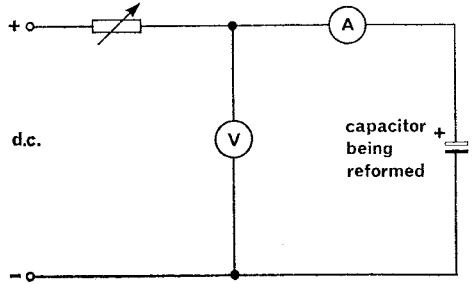

Fig 1 Reforming circuit
5. **Method.** In order to reform an electrolytic capacitor a d.c. current of the correct polarity must be passed through it for a period of time depending on the condition of the capacitor. This current should be as low as possible and must be carefully controlled to prevent overheating the component. A suitable reforming circuit is shown in figure 1. The value of the variable resistor is gradually reduced during the reforming, keeping the leakage current less than the permitted maximum. The resistor should not be reduced beyond the point where the voltage across the capacitor reaches the working volts. The leakage current indicated on the ammeter with the working voltage applied must be less than the value calculated from the formula in para 2 or the capacitor is unserviceable.